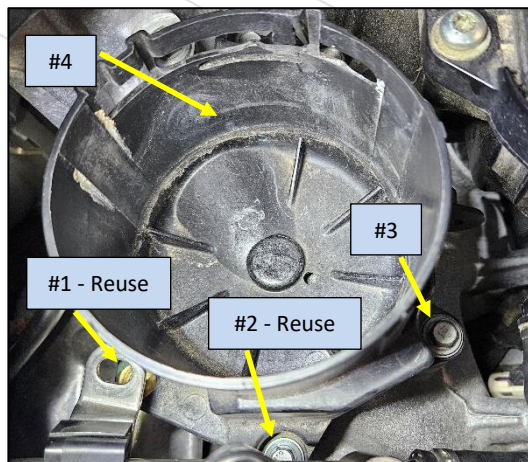
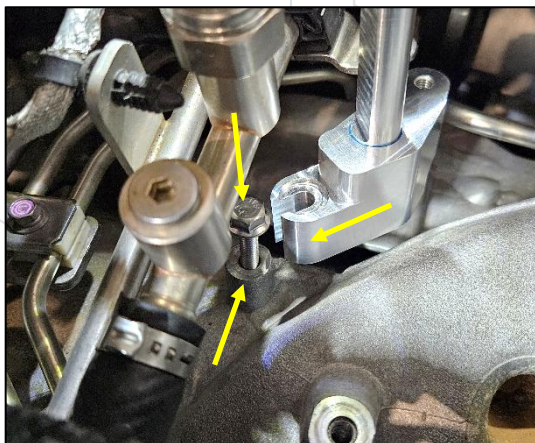
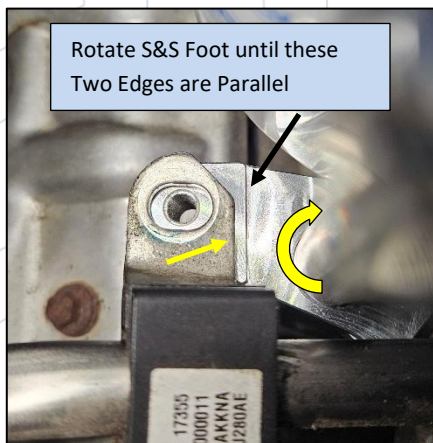

Figure 4: Remove the Fuel Filter Bowl
Figure 6: Install OEM bolt, then S&S foot
Figure 7: Rotate S&S foot until parallel
9. Remove the filter mounting bowl by removing the 4 bolts shown in Figure 4. **Bolts #1 and #2 will be REUSED** in the same positions.
11. Install bolt #2 from Figure 4 back into the hole under the metal fuel supply line as shown in Figure 6.
13. As shown in Figure 7, rotate the S&S mounting foot until the fuel line bracket and the mounting foot's raised pad are parallel and the hole aligns. Torque the mounting foot bolt to 89 lb-in using an 8mm socket on a 1/4" wobble extension.
14. Reusing the OEM bolt (#1 from Figure 4), attach the fuel line bracket in Figure 7 to the S&S mounting foot and torque to 89 lb-in using an 8mm socket.